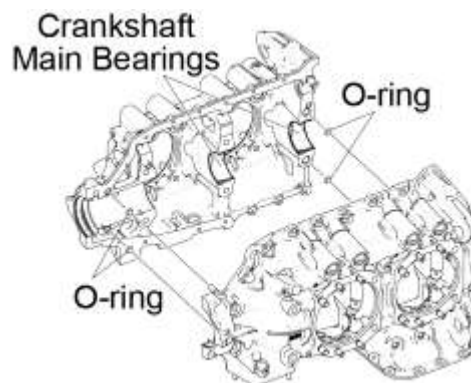

Figure 66
- C. Install the new O-rings in the crankcase (Figure 66).